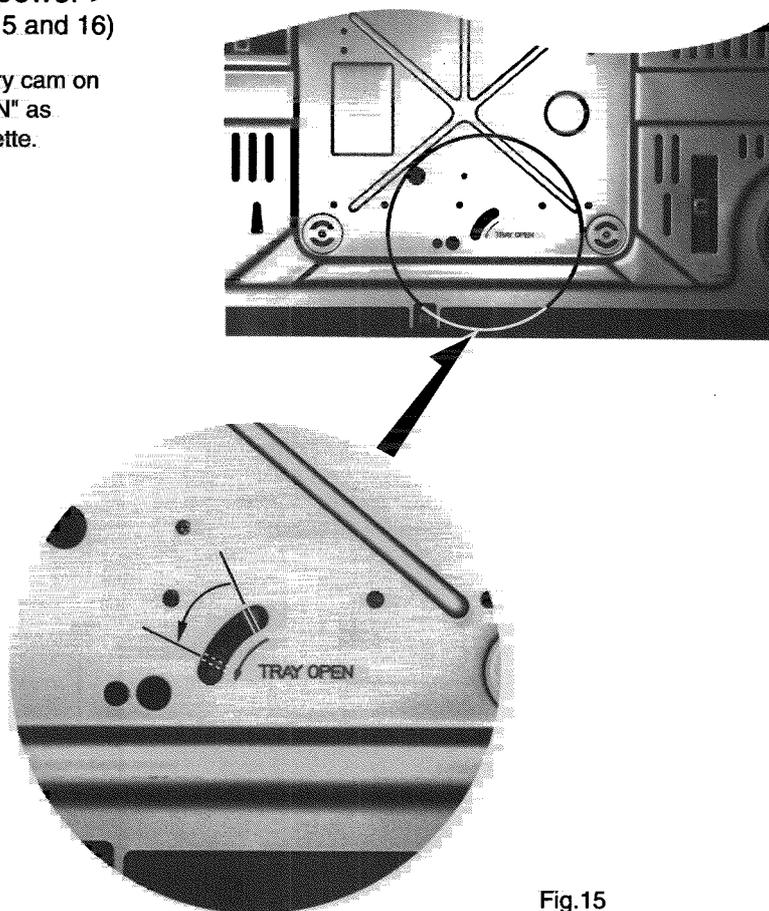

Fig.15
(See Fig.15 and 16)
1. Turn over the body, and shift a part of the rotary cam on the bottom of the loading base to "TRAY OPEN" as shown in the Fig.15 by using a tool like a pincette.